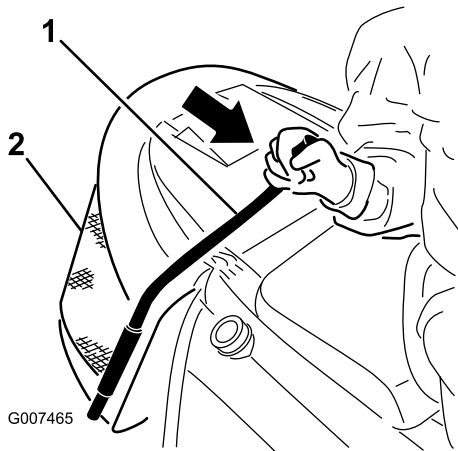

Figure 16
- Pull the collector rod forward to tilt the collection bin (Figure 16).